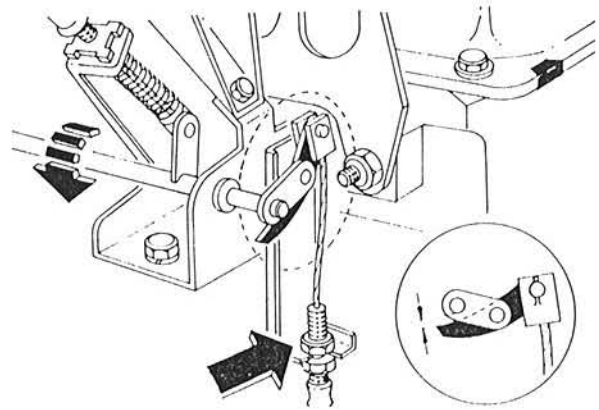

Fig. 6.37 Adjusting the downshift cable (Sec 23)
- 8 Turn the adjusting nut to lengthen or shorten the cable to give a clearance of 0.5 to 1.3 mm (0.02 to 0.05 in) between the downshift lever and the accelerator shaft (Fig. 6.37). Tighten the locknut.